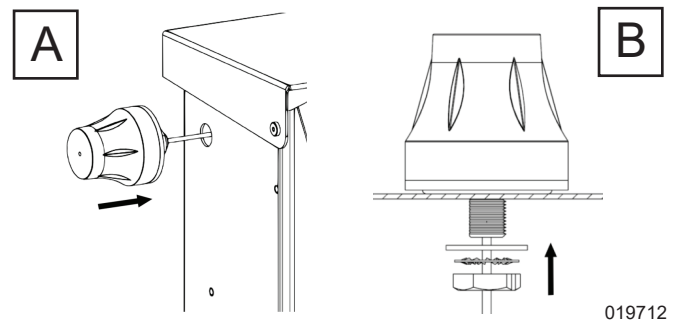

Figure 1. Securing With Washer and Nut
8. See Figure 1. Insert LTE antenna (image A) and secure with included washer and nut (image B). Check antenna gasket is evenly seated and nut is sufficiently tightened to create a watertight seal.